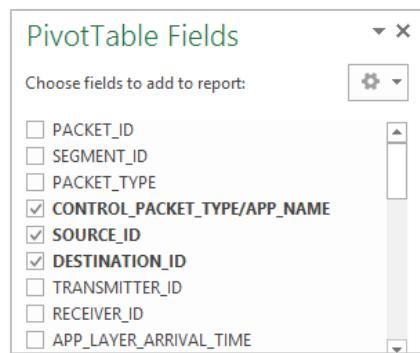

Figure 8-30: Select the check box of SOURCE_ID, DESTINATION_ID and CONTROL_PACKET_TYPE/APP_NAME in PivotTable Fields
- If you want to analyze packets sent from all sources to all destinations, then check SOURCE_ID, DESTINATION_ID and CONTROL_PACKET_TYPE/APP_NAME as shown below Figure 8-30.